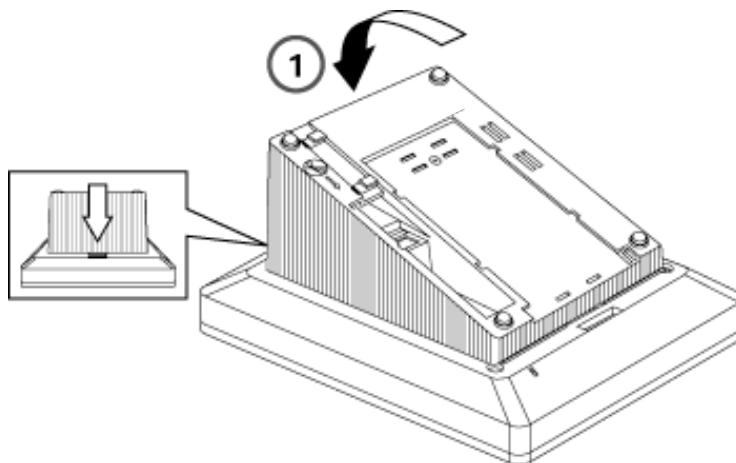

Figure 3-43. Lowering the Deskstand and Locking into Place
2. Lower the deskstand and lock into place as shown in item 1 in Figure 3-43.